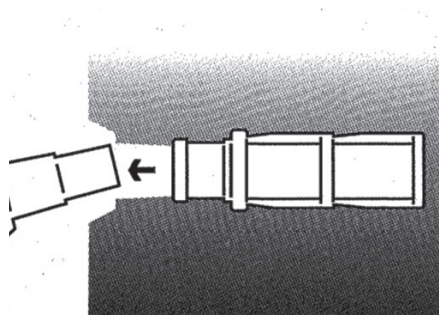

Fig. 7.4
3. When stripping the formwork, unscrew the connector with a wrench MFS and remove it from the anchor sleeve (Fig. 7.4). You can now install the tie rod.